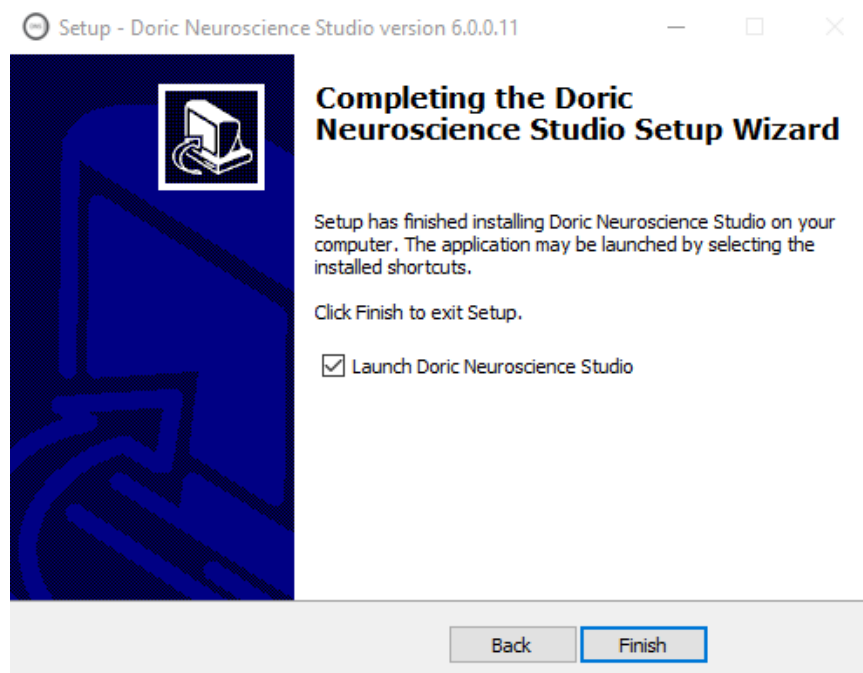

Figure 4.5: Successful Installation of the Doric Neuroscience Studio
10. When ready, click **Install** to begin the process. This should take a few moments. When the installation is done, the message in figure 4.5 will show up. If Doric Maintenance Tool has been selected to be installed, steps 2 to 10 also need to be done for Doric Maintenance Tool.